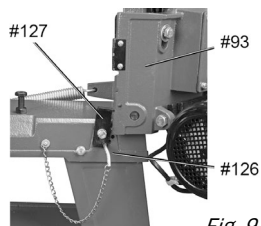

Fig. 9
2. Raise the Body Frame to its full vertical position. Turn the Support Plate (#127) clockwise until it firmly locks into the Body Frame and insert the Locking Pin to lock the Body Frame into position (Fig. 9).
3. Raise the Body Frame to its full vertical position. Turn the Support Plate (#127) clockwise until it firmly locks into the Body Frame and insert the Locking Pin to lock Body Frame into position (Fig. 9).
1. Raise the Body Frame (#93) to its full vertical position. Turn the Support Plate (#127) to the right until it firmly locks into the Body Frame and insert the Locking Pin (#126) to lock the Body Frame into position (Fig. 9).